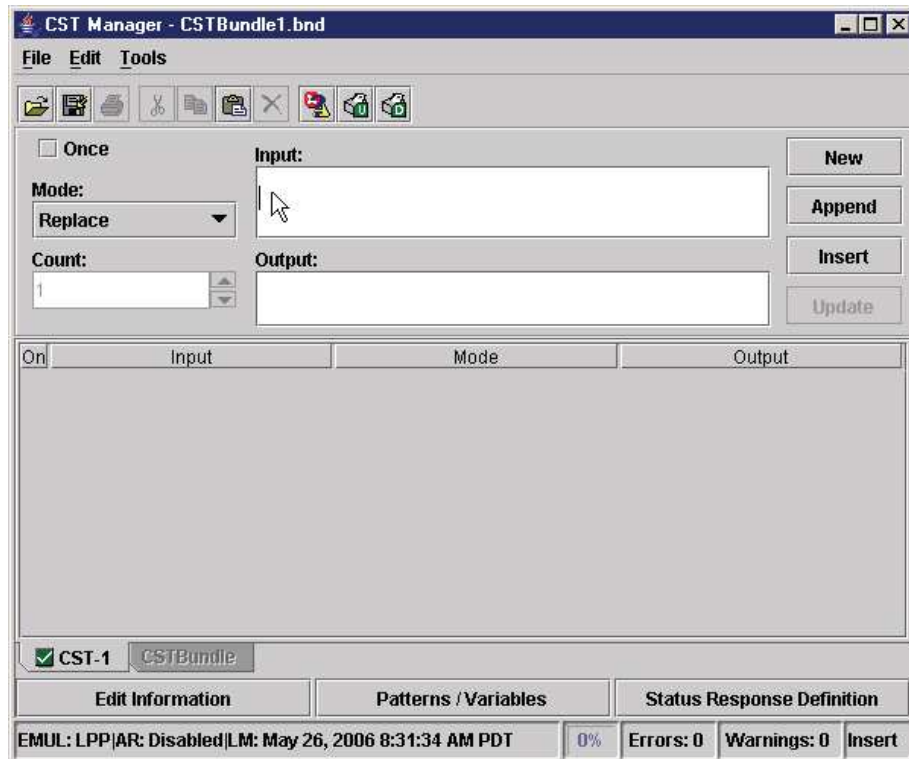

Figure 158 Selecting the Input Field
15. Click the **Input** field to place the cursor. See Figure 158.